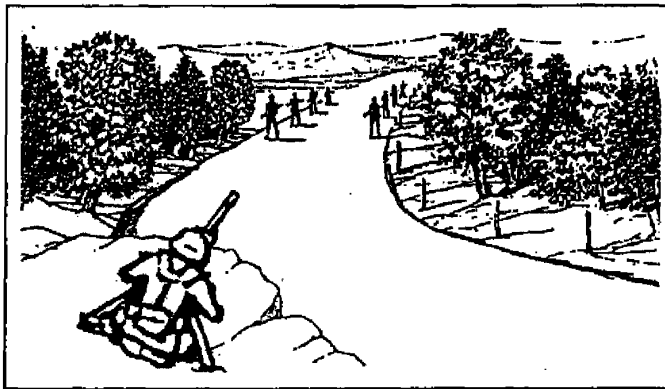

Figure 071-030-0004-10. Deep target
(6) Area target. Initially aim at the midpoint of the target area. Traverse and search to either flank, then traverse and search to the opposite flank (figure 071-030-0004-11).